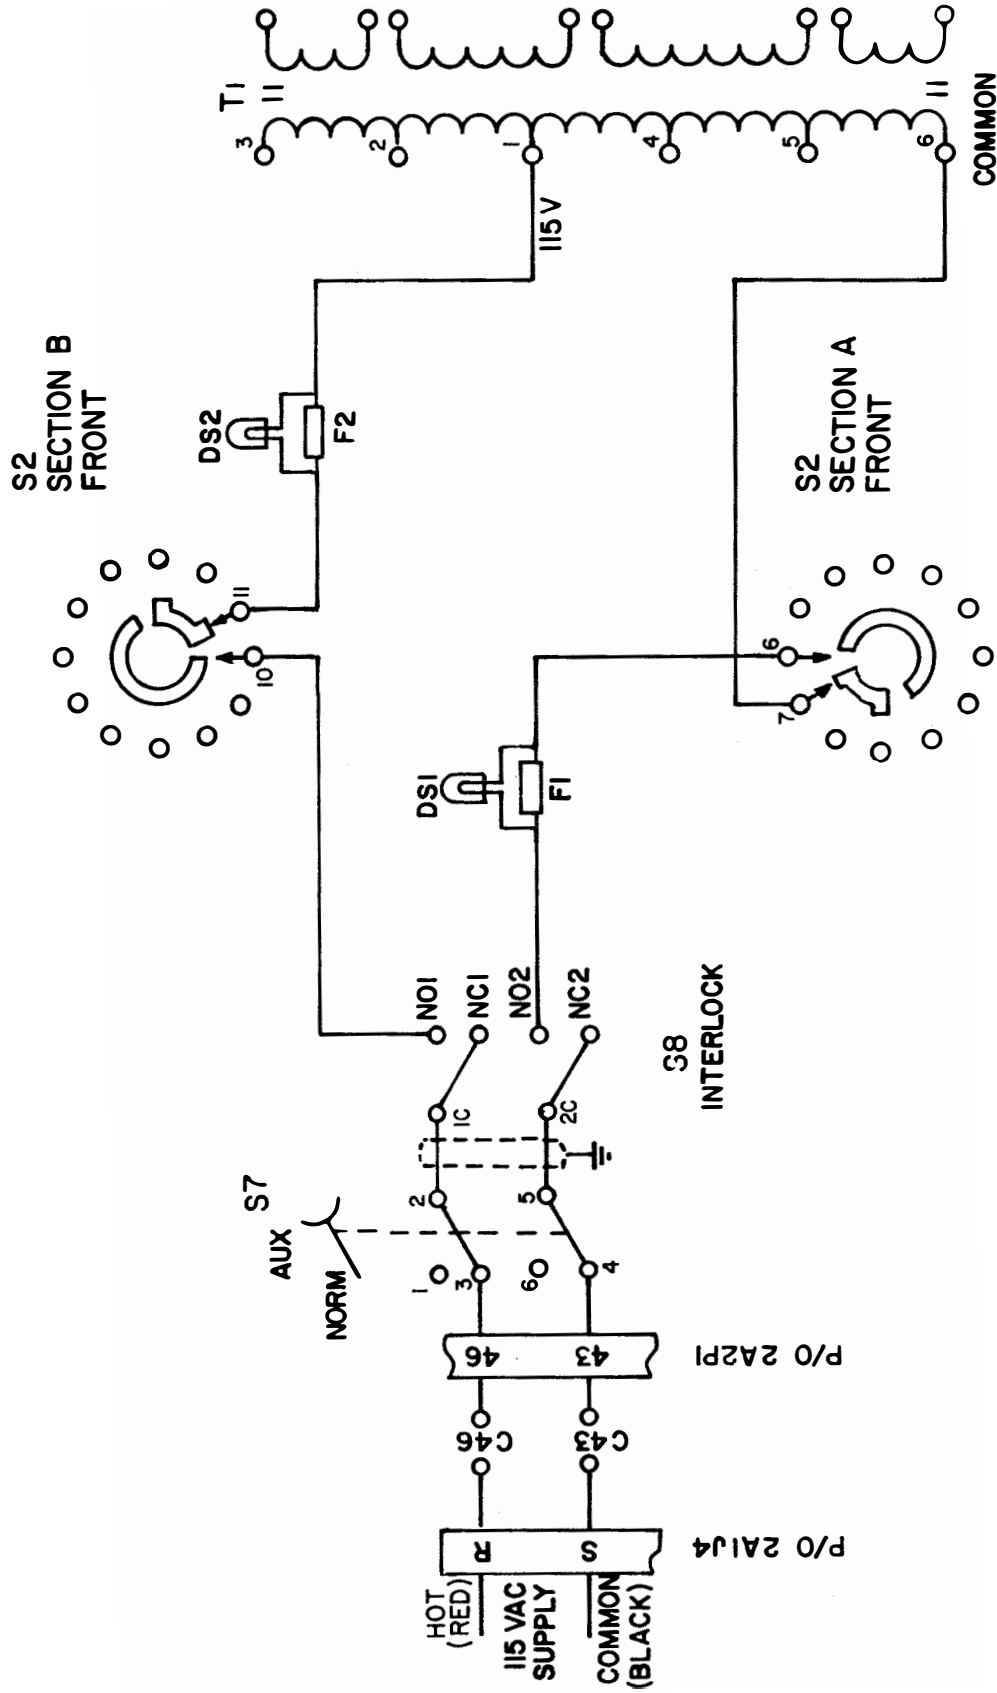

FIGURE 1
B. Trace the power distribution of all AC and DC voltages using the chassis and mainframe schematic diagram of the T-827B in the Student Guide Volume 3. Figures 1 through 8 will aid in locating the circuits on the schematic diagrams located in the rear of the assignment sheet.
1. TRACE the 115 VAC COMMON line using black as a recommended color starting at 2A1J4 pin S (20-G) on page 11 and using Figure 1.
2. TRACE the 115 VAC HOT line using red as a recommended color starting at 2A1J4 pin R (20-G) on page 11 and using Figure 1.